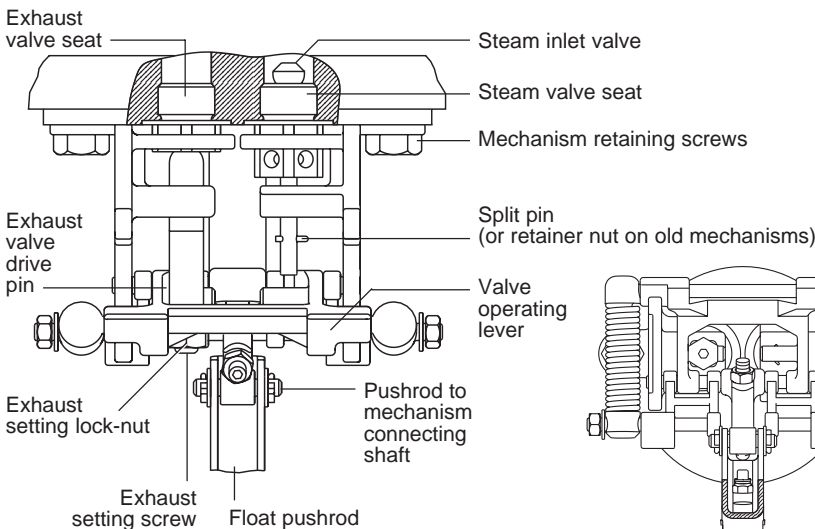

Fig. 1 Replacement mechanism front view
3. Removal of an old mechanism (refer to Figures 1 and 2)
4. Fitting a new mechanism (refer to Figures 1 and 2)